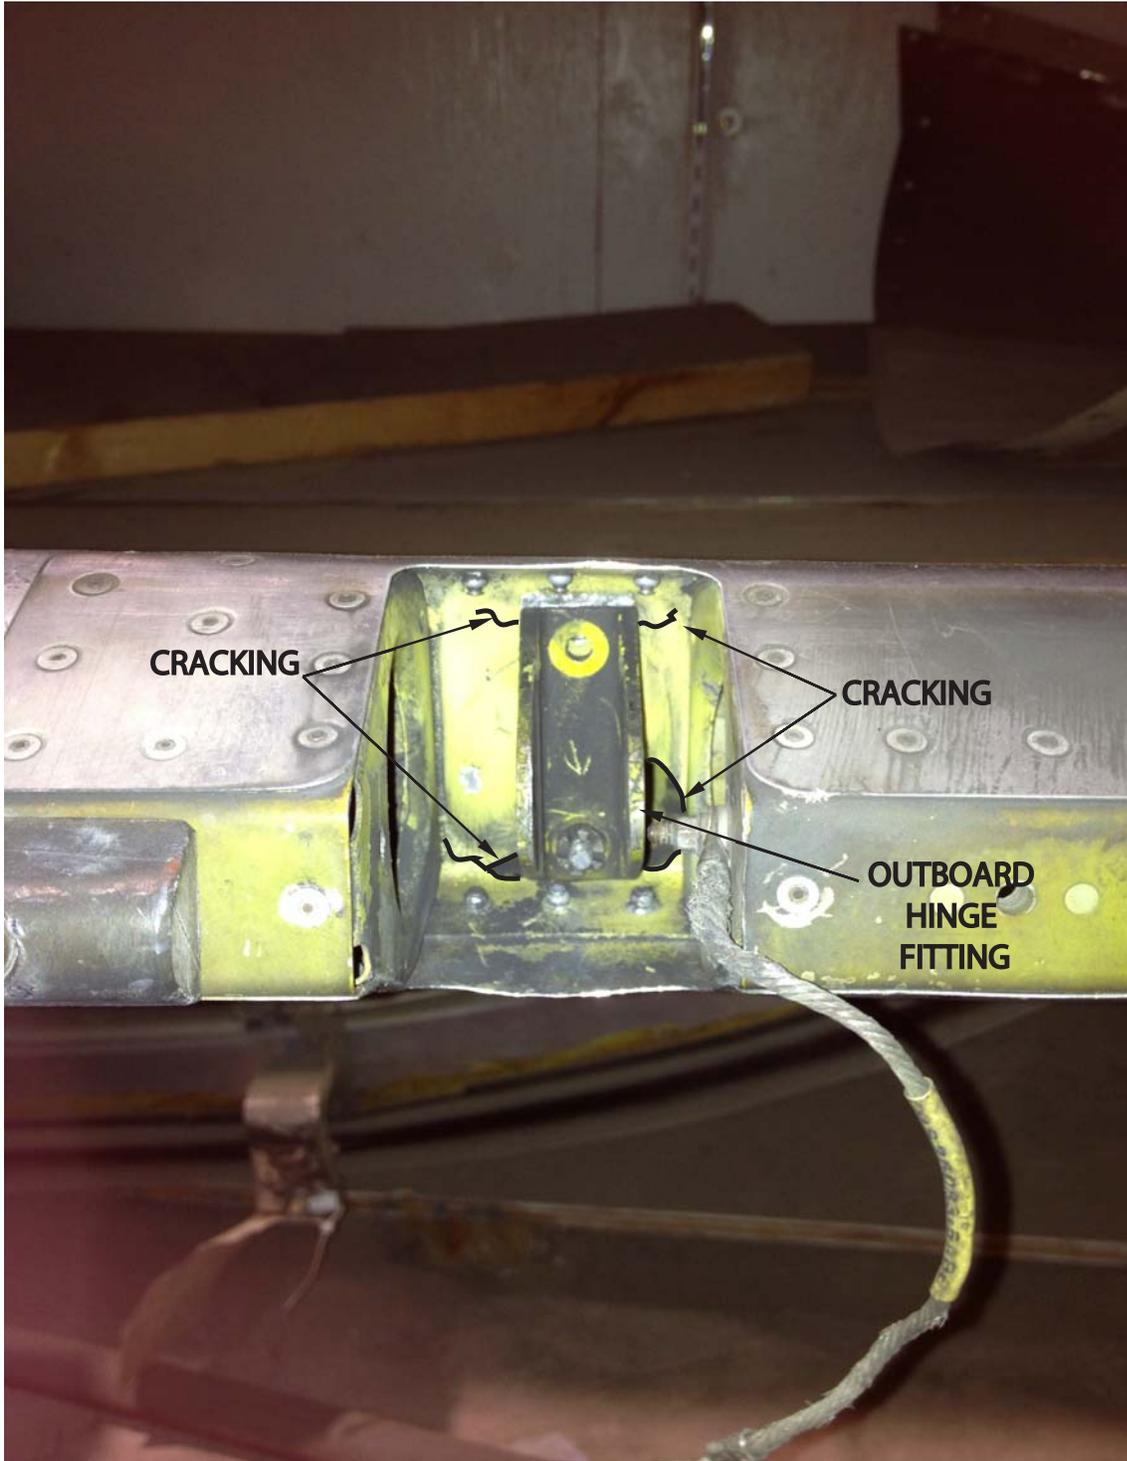

FIGURE 1
- B. Detail Visual Inspect (DVI*) the aileron spar web immediately either side of the outboard hinge fitting by rotating the aileron to increase visibility of the spar web. Look for cracks emanating out from under the fitting, particularly in the upper and lower spar web radius. (See Figure 1).